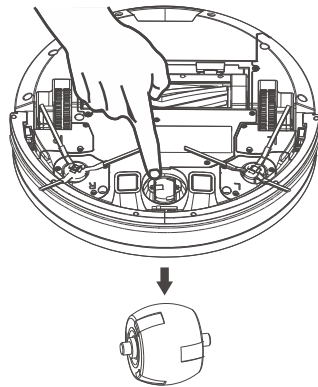

Figure 2
- Take off the nose wheel with a screwdriver, clean hairs in the wheel cavity and the axle twice a week. (See figure 2)